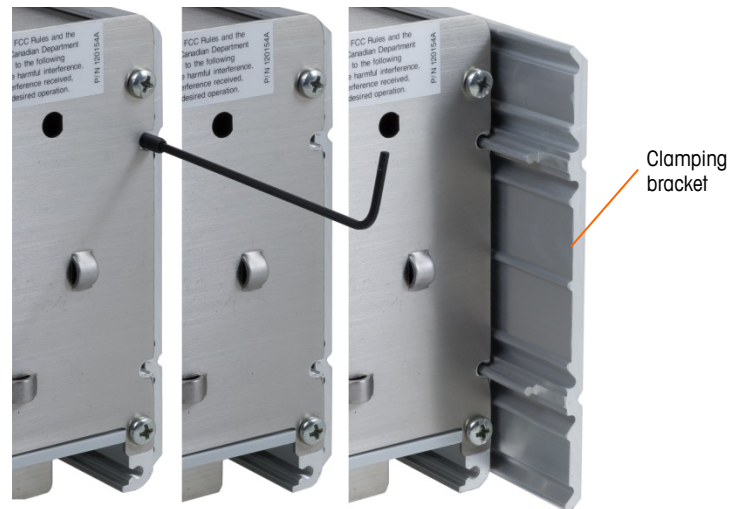

Figure 2-8: Clamping Bracket
1. Loosen and remove the four Allen-head screws that secure the clamping brackets to the side of the housing (see Figure 2-8). Use the 2mm Allen wrench included with the terminal.